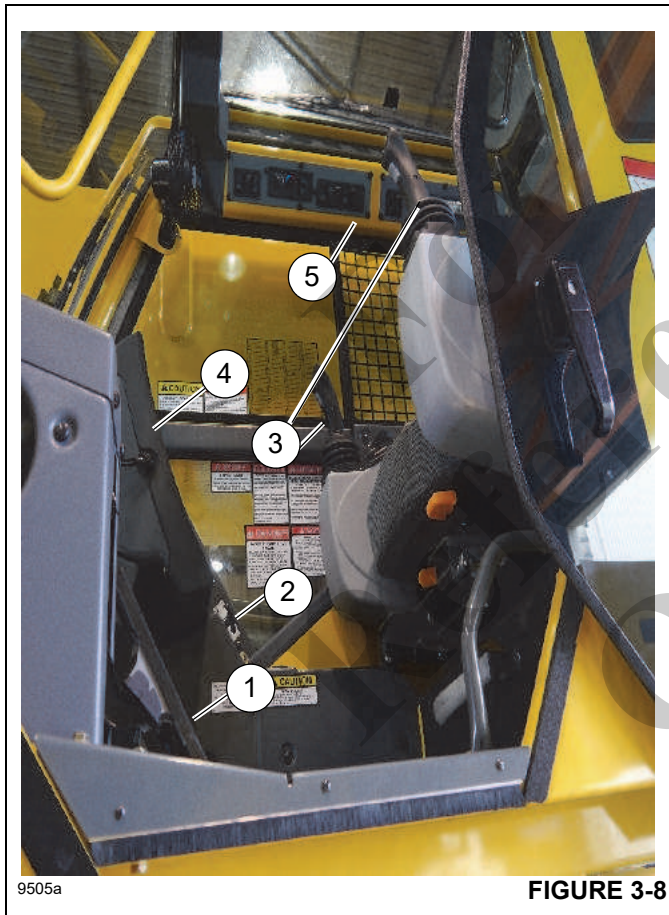
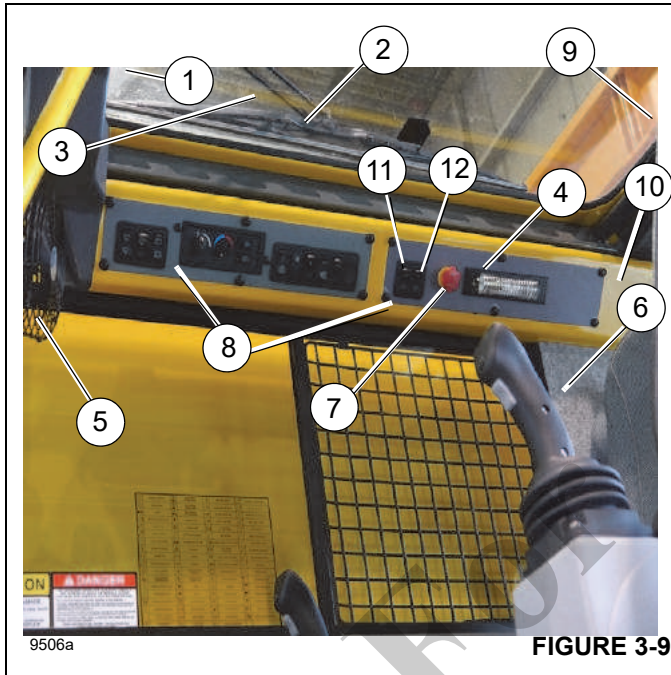
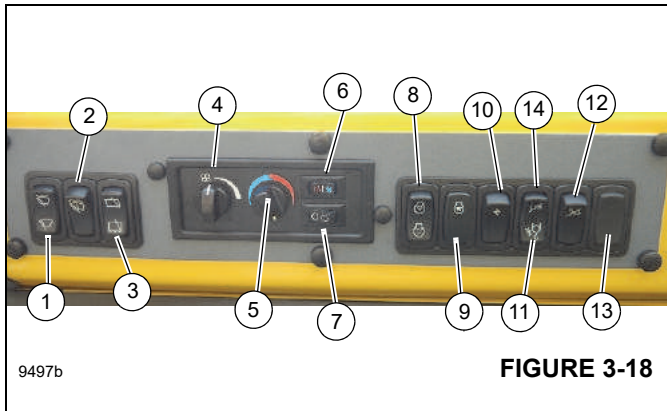

FIGURE 3-8
FIGURE 3-9
FIGURE 3-18
All the controls and indicators to operate and monitor crane functions are found inside the crane superstructure cab (Figure 3-8).
For a description of the foot pedals (1), (Figure 3-8), refer to Foot Pedal Controls, page 3-25.
The Turntable Swing Lock Pin Control Handle (2), (Figure 3-8) is located on the lower right console. When the control handle is pushed down and the superstructure is directly over front of carrier, the swing lock pin drops into the socket on the carrier frame, locking the superstructure in place. When the control handle is pulled up, the pin is pulled out of the socket, unlocking the superstructure.
The seat joystick and armrest controls (3), (Figure 3-8) are located on each side of the chair seat. The armrest contains the joystick controls and switches. Refer to *Right Hand Arm Rest Controls*, page 3-27 and *Left Hand Arm Rest Controls*, page 3-27.
The Operator Display Module (ODM) and Rated Capacity Limiter Display Module (RDM) Panels (4), (Figure 3-8) are located to the right of the cab. For more details on the ODM and RDM, refer to Operator Display Module and Rated Capacity Limiter Display Module, page 3-33.
The Superstructure Overhead Control Panels (5), (Figure 3-8) are located overhead to the right side of the superstructure cab. Specific items located on the overhead control panels can be found in Figure 3-18.
The Skylight Window Latch (1), (Figure 3-9) indicates the area location where the latch is located on the overhead window. Squeeze the latch and slide the window to the rear to open. To close, slide the window forward until the latch engages.
The Skylight Wiper and Wiper Controls (2), (Figure 3-9) are located on the superstructure cab overhead control panel. Item 2 indicates the area where the wiper is located overhead. To set the wiper intermittent speeds, refer to Setting the Wiper Interval Function, page 4-78).
The Skylight Sunscreen (3), (Figure 3-9) is located toward the rear of the window. It is used to diminish direct sunlight. The sunscreen is self retracting and can be set to screen all the light or adjusted rearward by moving it into the notches provided.
The Cab Dome Light (4), (Figure 3-9) is on the right rear corner of the cab overhead console and provides illumination in the cab. The dome light is controlled by a switch on the light.
The Cab Circulating Fan (5), (Figure 3-9) is located on the right front side of the cab, above the window frame. A swivel allows the fan to be rotated and a switch on the fan base controls the fan. The switch has a high, low, and off position.
The Right Side Window Latch (6), (Figure 3-9), is located on the right side of the cab window area. Squeeze the window latch (6), (Figure 3-9) to release and slide forward. To close, slide the window rearward until the latch engages.
The Emergency Stop Switch (7), (Figure 3-9) is provided as a means to shut off the engine and stop crane functions in the case of an emergency.
The Overhead Control Panels (8), (Figure 3-9) are located overhead on the right side of the superstructure cab and contains switches used in the superstructure cab (also shown in Figure 3-18).
The Work Lights Switch (11), (Figure 3-9) controls the crane's work lights mounted on the bottom front of the superstructure cab. Press the top of the switch to turn on the work lights. Press the bottom of the switch to turn off the work lights.
The Boom Lights Switch (Optional) (12), (Figure 3-9) controls the crane's boom lights mounted under the boom. Press the top of the switch to turn on the boom lights. Press the bottom of the switch to turn off the boom lights.
The Windshield Wiper Switch (1), (Figure 3-18) is used to turn the wiper motor on and off.
Washer is controlled by the Windshield Washer Switch (2) (Figure 3-18).
The Skylight Wiper Switch (3), (Figure 3-18) is used to turn the wiper motor on and off.
The Heater/Air Conditioner Fan Speed Switch (4), (Figure 3-18) controls the cab fan's speed. Fan speed controls the volume of heated air output (or cooled air output) of the fan. Settings are low speed to high speed.
The Heater/Air Conditioner Temperature Control Switch (5), (Figure 3-18) controls intensity of heating or cooling. Turn the knob to the right (clockwise) to open the valve for heat. Turn the switch to the left (counterclockwise) to increase the amount of cooling.
The Heater/Air Conditioner Switch (6), (Figure 3-18) is used to turn on either the heater or the air conditioner system. Pressing the left side of the switch turns on the heater system and pressing the right side of the switch turns on the air conditioner system.
The Fresh Air/Recirculation Air Switch (7), (Figure 3-18) controls whether outside air is drawn into the cab. Pressing the left side of the switch causes outside air to be drawn into the cab when operating the heater system or air conditioner system. Pressing the right side of the switch causes the air inside the cab to be recirculated, with minimal outside air being drawn into the cab.
The Engine Speed Increment/Decrement Switch (8), (Figure 3-18) is a three position momentary rocker switch with center maintained position being OFF. This switch has two primary functions starting or stopping the engine and controlling engine speed.
The Wait-to-Start Indicator (9), (Figure 3-18) is controlled by a message received from the Engine Control Module (ECM) via J1939. When commanded ON because the outside ambient temperature is low, this lamp will illuminate amber. Do not attempt to start the engine while this indicator is ON.
The Crane Function Enable/Disable Switch (10), (Figure 3-18) is located on the overhead control panel. This momentary switch permits the operator to enable all crane functions at once or disable all crane functions controlled by the controllers on the armrests. Pressing it one time enables all crane functions. Disable all crane functions to prevent inadvertent operation of functions due to bumping the controllers while roading or any other operation.
The Hoist Bypass Switch (11), (Figure 3-18) is located on the Superstructure Overhead Panel. Press the bottom of the switch (11), (Figure 3-18) to bypass the Anti- Two-Block lockout or Minimum Wrap lockout. It will be bypassed only as long as the switch is held in this position.
The Boom Up Bypass Switch (12), (Figure 3-18), is a momentary two-position rocker switch that is located on the right armrest. While lift function is enabled and in an RCL lock-out condition, pressing and releasing the Boom Up Bypass Switch will enable boom lift up. It will be bypassed only as long as the switch is held in this position.
Blank Switch (13), (Figure 3-18) is a blank empty switch that is not used for other options.
The Limits Bypass Switch (14), (Figure 3-18) is for overriding the following lockouts: